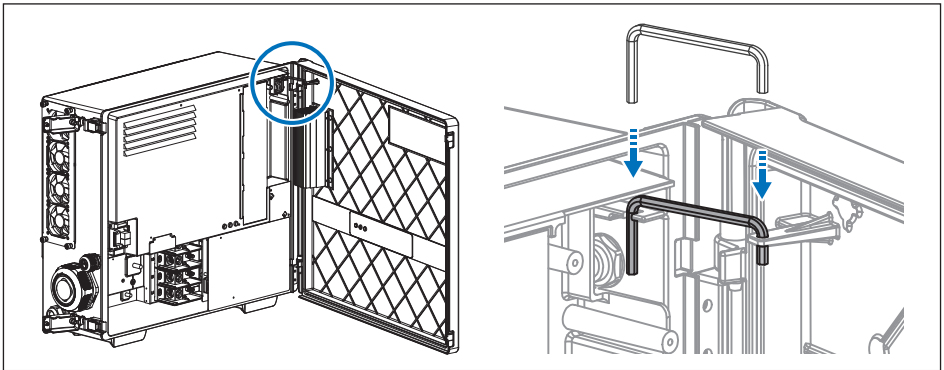

Figure 5-2: To secure door by hexagon driver
2. Open the front door and use the hexagon wrench to fix the door as **Figure 5-2**.
3. Remove the hexagon wrench (**Figure 5-2**) and close the door.